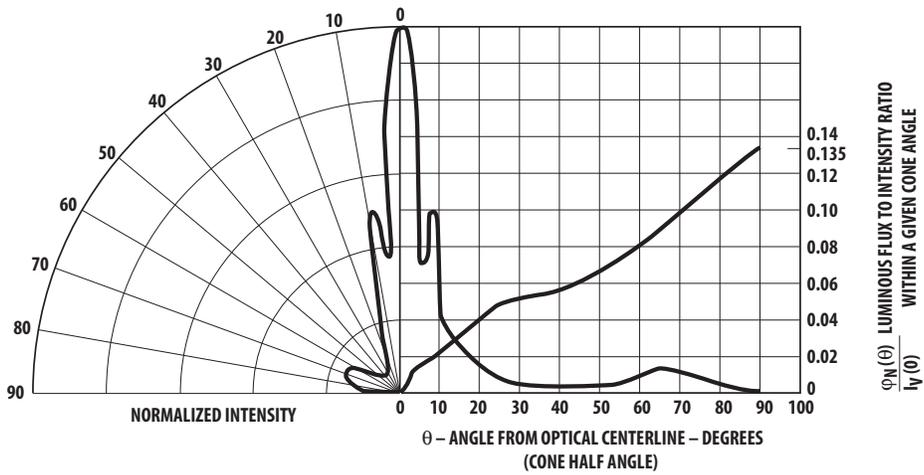

Figure 7. Relative luminous intensity vs. angular displacement.
3. The approximate total luminous flux output within a cone angle of 2θ about the optical axis, $\phi_v(2\theta)$, may be obtained from the following formula: $\phi_v(2\theta) = [\phi_v(\theta)/I_v(0)]I_v$; Where: $\phi_v(\theta)/I_v(0)$ is obtained from Figure 7.